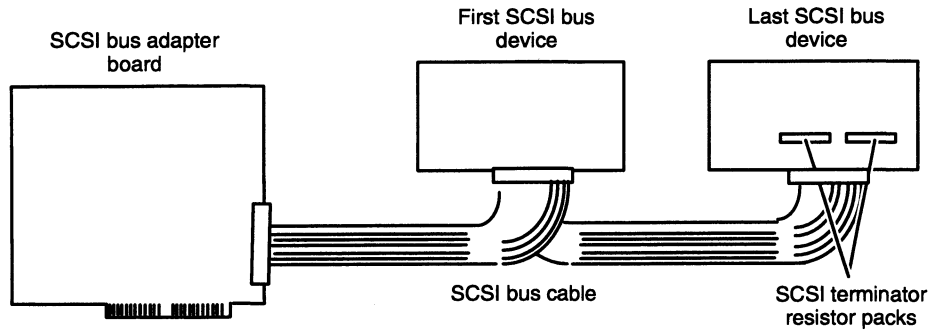

Figure 3 For PCs, install the SCSI bus terminator resistor packs in the last SCSI device (or only SCSI device) on the SCSI bus cable
- When the CD-ROM drive is the *last* (or furthest) SCSI device in the daisy chain, as shown in Figure 3. (Make sure that other SCSI devices in the daisy chain do not have their SCSI bus terminator resistors installed. Remove them if necessary. Refer to the installation manual for the other SCSI device for the correct removal procedure.)